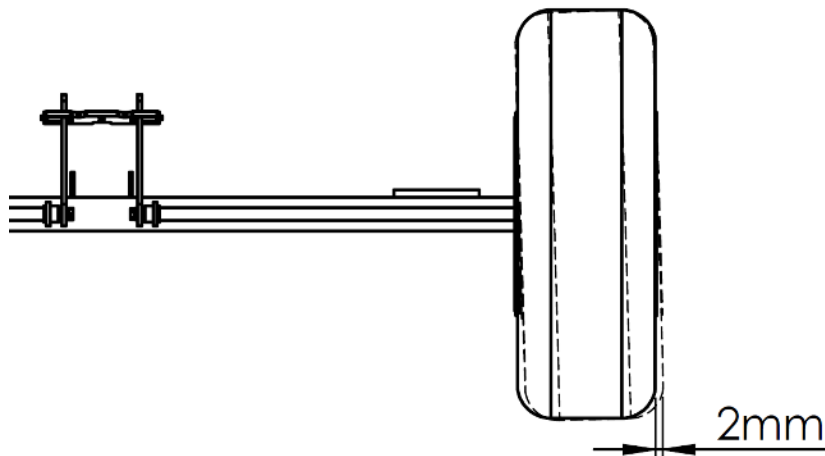

Fig. 21 Checking driving wheel bearing backlash.
- if a wheel exhibits excessive clearance, i.e. clearance on the extreme exterior surface of the tire is above 2mm (fig. 21), dismount the hub cover and gasket, and remove the pin of the crown nut;